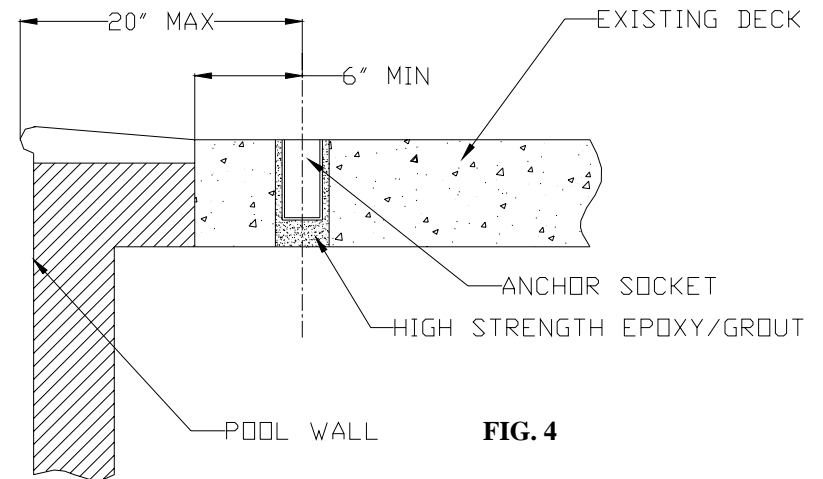

FIG. 4
1. The setback for the anchor must be no more than 20 inches from the pool wall and at least 6" from any control joint or edge of concrete slab. **FIG. 4**